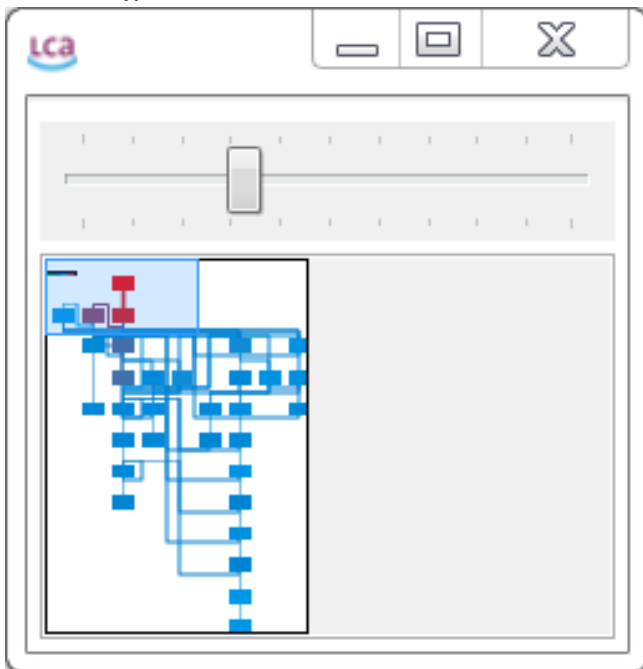

Figure 117: Sankey diagram viewer
- “Open miniature view” which provides an overview of the diagram with zoom options (Figure 117). The blue box in the viewer shows the view displayed in the Analysis editor.